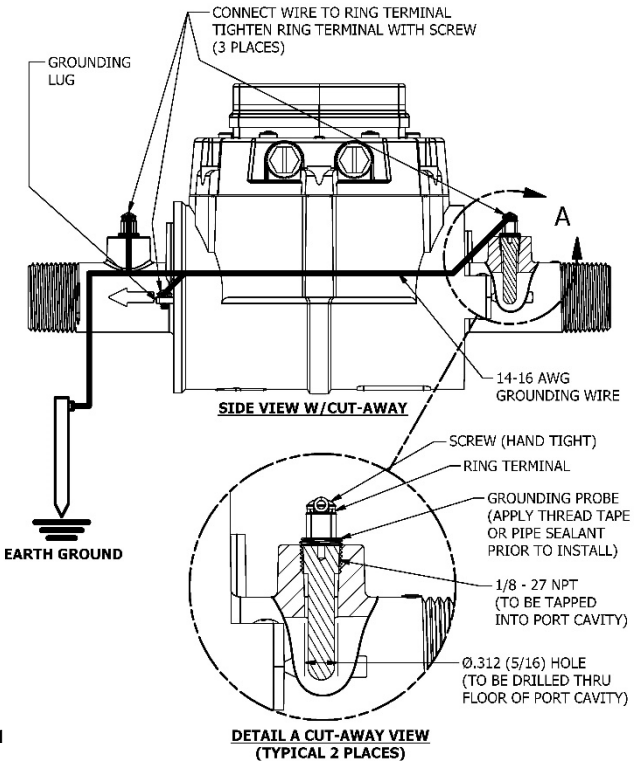

Figure 1
3. Ground process fluid to meter ground lug (customer responsibility). Various process fluid grounding examples are shown on the following pages (see Figures 1, 2, and 3) to assist you in completing this item. The examples cover various meter installation situations.